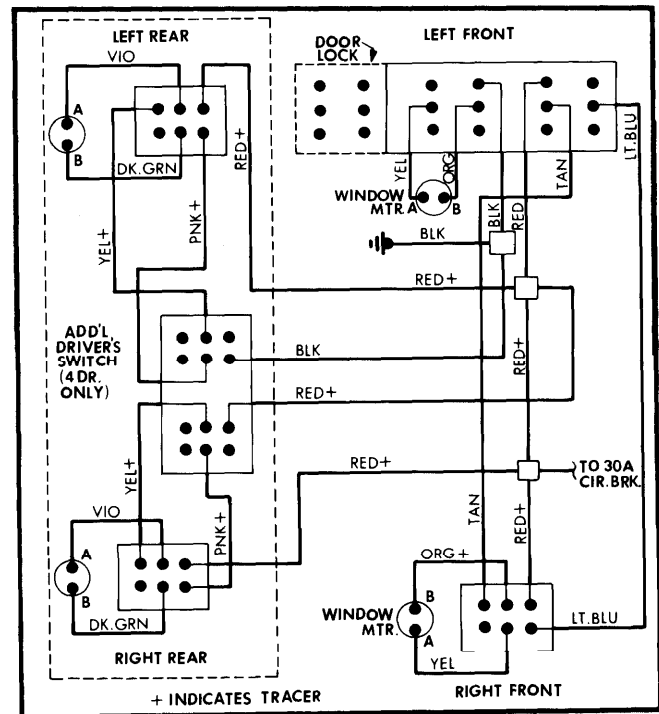

Fig. 1 Power Window Wiring Diagram
- 2) Reverse jumper wire connections. Motor should move window in opposite direction from first test. See Fig. 1.